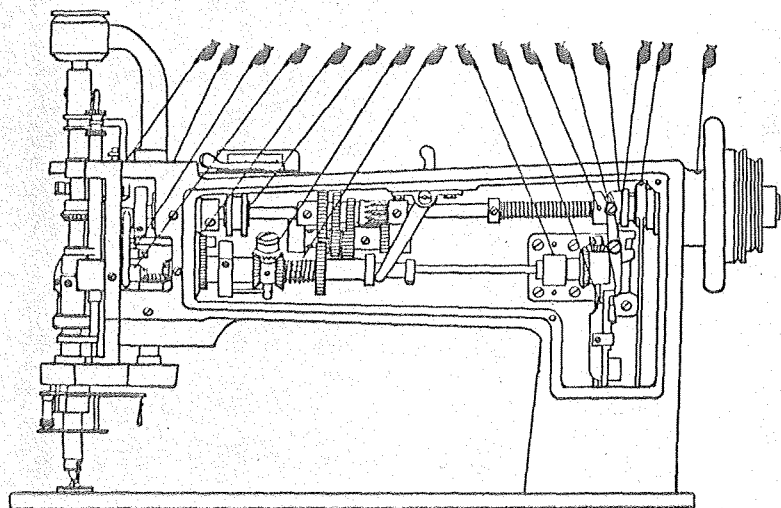
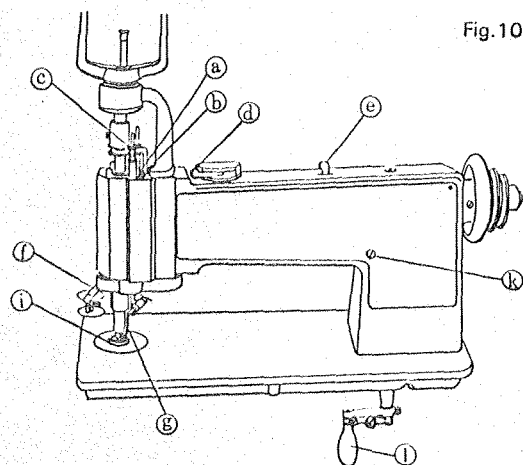

Fig. 2
Fig. 10
Fig. 2 shows the arm cover removed for the purpose of oiling. This arm cover can be removed after taking out thumb screw, Fig. 10. If the machine is used continuously, oil should be applied at least once each day.
12. TO ADJUST THE LENGTH OF STITCH (Fig. 10)
The length of stitch is adjusted by screw (a), Fig. 10. To lengthen the stitch, loosen locking lever (b) and turn screw (a) over to the left or upward, then tighten locking lever (b).
13. TO REGULATE THE PRESSURE ON THE NIPPLE (Figs. 10 & 11)
The pressure on the nipple is regulated by the thumb screw (c), Fig. 10 at the top of the machine. To increase the pressure, turn this thumb screw over to the right or downward. To decrease the pressure, turn this thumb screw over to the left or upward.
16. TO ADJUST THE NUMBER OF THE BRAIDING (Fig. 10)
The number of the braiding can be adjusted by the lever ①, Fig. 10, which is located on the top of the machine frame. At the number 0, the gears do not engage and the machine will be operated as chainstitch, moss stitch or tape attaching embroidery.
17. TO ADJUST THE TENSION OF THE BRAIDING (Fig. 10)
It is the best for the normal braiding embroidery works that the braid spool bracket ①, Fig. 10 is set in the left while the handle ② is at the front.
To adjust as above, bring the handle ② to front, hold the handle by the knee as it does not turn round, then press the gear changing lever ③, Fig. 10 to the right and turn the braid spool bracket ① to the above position.
The additional adjustment will be made by the braid spool adjusting thumb nut ④, Fig. 7 and the braid leader guide ⑤, Fig. 10.
Then, set the lever ④, Fig. 10 to the number 1.
The looper will then be set in the opposite direction to that which is required for the chain stitch, or with the notch of the looper at the front of the needle while handle ①, Fig. 10 is at the front. Change the presser foot ① to the presser foot (spur).